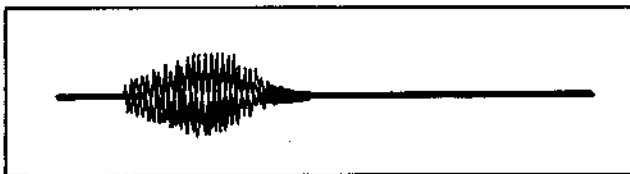

Fig. 4-4-5. Envelope waveform
- (1) Supply the VTR with the colour bar signal and set up the E-E mode.
- (2) Connect the oscilloscope to pin 1 of IC6.
- (3) Adjust LV1 for maximum level, and make sure that envelope of the waveform is modulated as shown in Fig. 4-4-5.